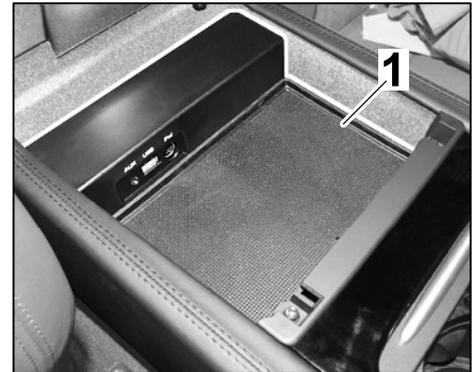

Figure 12
- 3.10 Place rubber insert ⇒ *Figure 12 -1-* in center console storage bin.